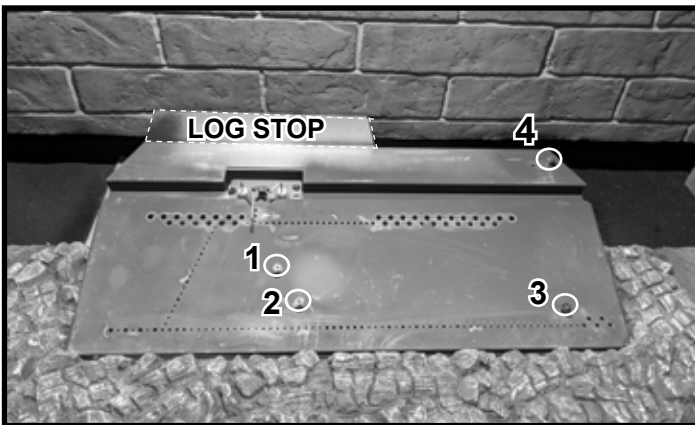
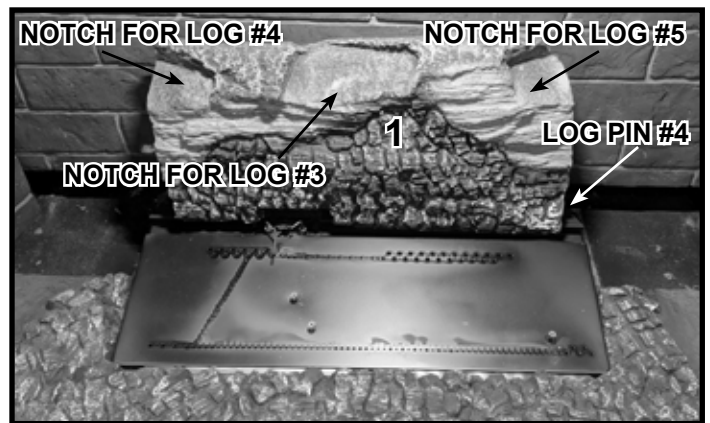

Figure 2 Locations for Log Pins
Figure 3 Position Log #1
1. Reference the four log pins and the location of the log stop shown in Figure 2.
Log #1: Place Log #1 as shown in Figure 3. The right end touches Log Pin 4. Push the log back until it rests against the log stop shown in Figure 2.
Log #2: Place Log #2 using the three log pins as shown in Figure 2 and Figure 4.
Log #3: Place the top end of Log #3 on the notch located on Log #1. See Figure 3 and Figure 5. Place the bottom end of Log #3 as shown in Figure 5. The burned out side of Log #2 and the knot on Log #3 align, but do not make contact. See Figure 5 and Figure 7.
Log #4: Place the top end of Log #4 on the notch located on Log #1 as shown in Figure 3 and Figure 6. Place the bottom of Log #4 seven inches from the bottom of Log #3 as shown in Figure 6.
Log #5: Place the top end of Log #5 on the notch located on Log #1. See Figure 3 and Figure 7. The bottom end of Log #5 rests on the base refractory as shown above. The space between the bottom right side of Log #3 and the bottom left side of Log #5 should measure 13-1/2 inches as shown in Figure 7.